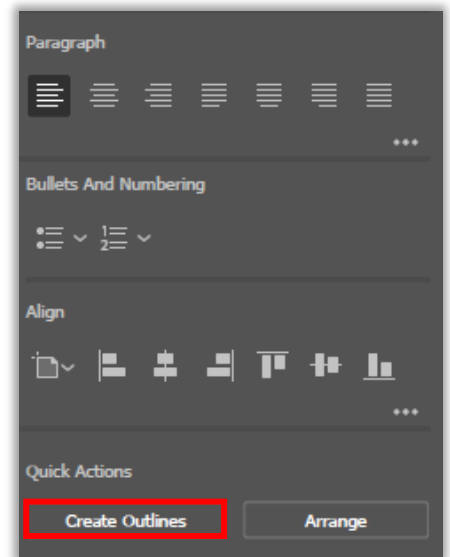

Figure 20: The Properties Panel when text is selected with the Create Outlines button outlined in red.
5. Therefore, if you care about your font, click your text, then head to the bottom of the Properties panel, and click "Create Outlines" (**Figure 20**)